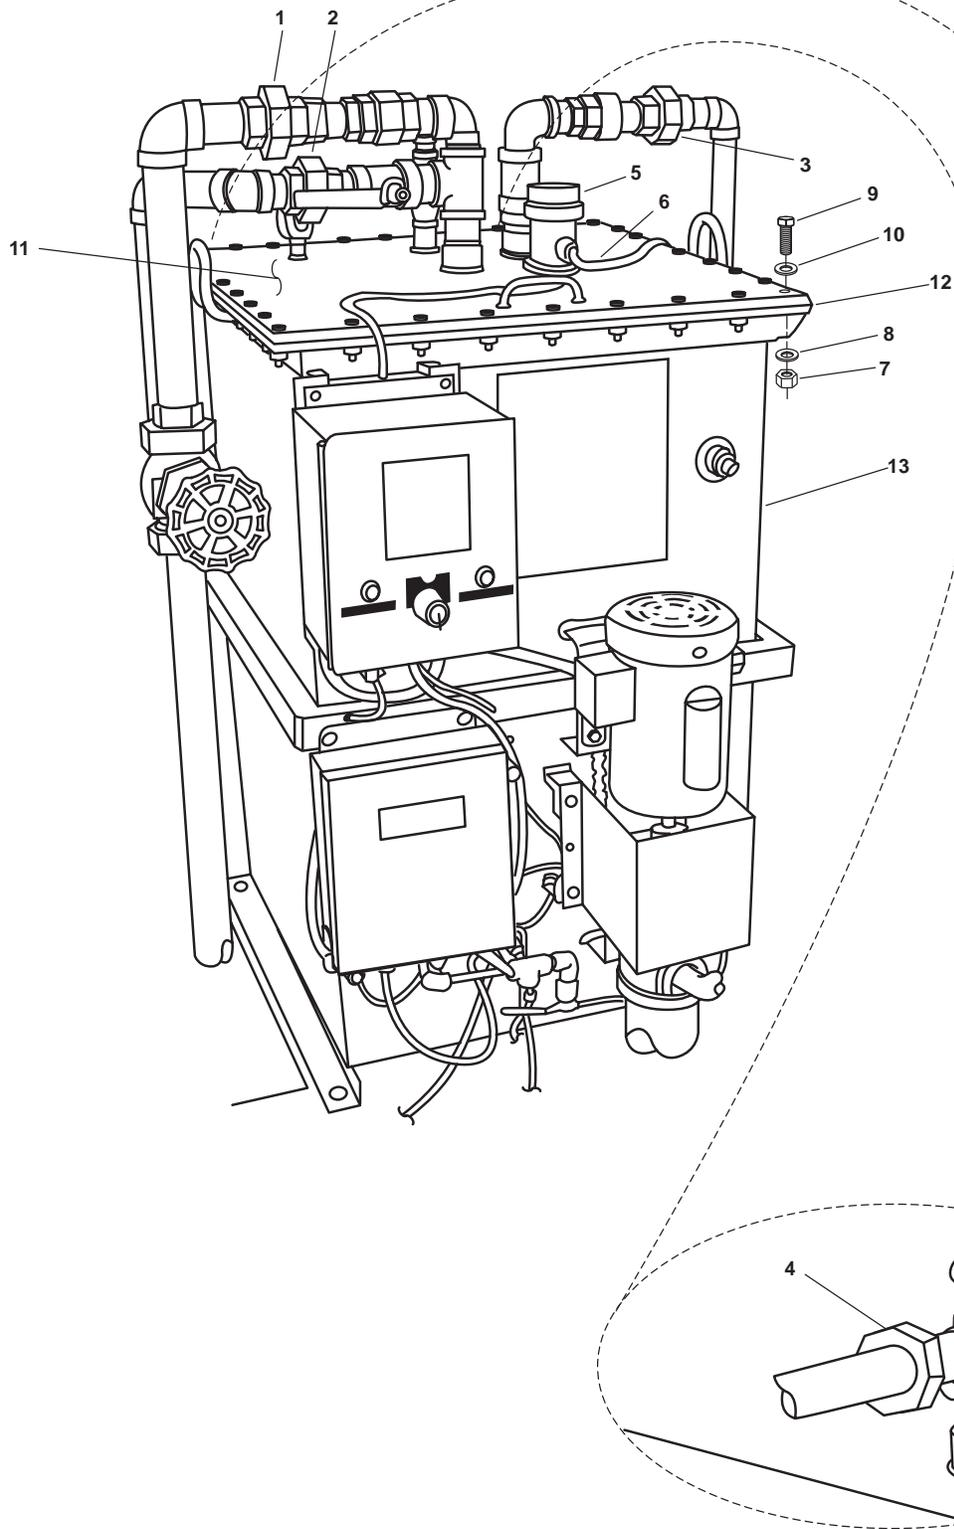

Figure 3. Oil Water Separator
5. Slowly loosen the union (figure 3, item 1) and allow any trapped pressure to escape. Disconnect the union after all the pressure has escaped.
6. Disconnect the unions (figure 3, items 2, 3, and 4).
7. Remove the cap (figure 3, item 5) and label and disconnect the interface sensor cable (figure 3, item 6).
8. Inspect the interface sensor cable's (figure 3, item 6) connections for corrosion or sludge buildup. Clean the connections using a clean wiping rag.
9. Remove the 32 nuts (figure 3, item 7), 32 washers (figure 3, item 8), 32 bolts (figure 3, item 9), and the 32 washers (figure 3, item 10) securing the OWS tank cover (figure 3, item 11).
10. Carefully lift and remove the OWS tank cover (figure 3, item 11).
11. Remove the cover gasket (figure 3, item 12) from the OWS tank cover (figure 3, item 11). Discard the gasket.
12. Using a wire brush, remove any remaining pieces of the OWS cover gasket (figure 3, item 12) and adhesive from the OWS tank cover (figure 3, item 11) and OWS tank (figure 3, item 13).